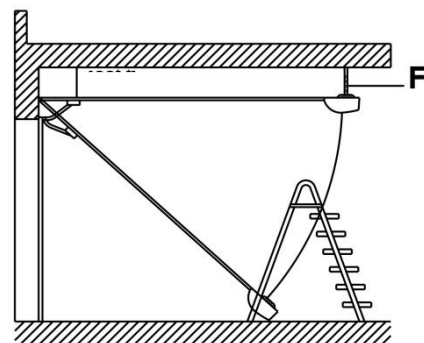
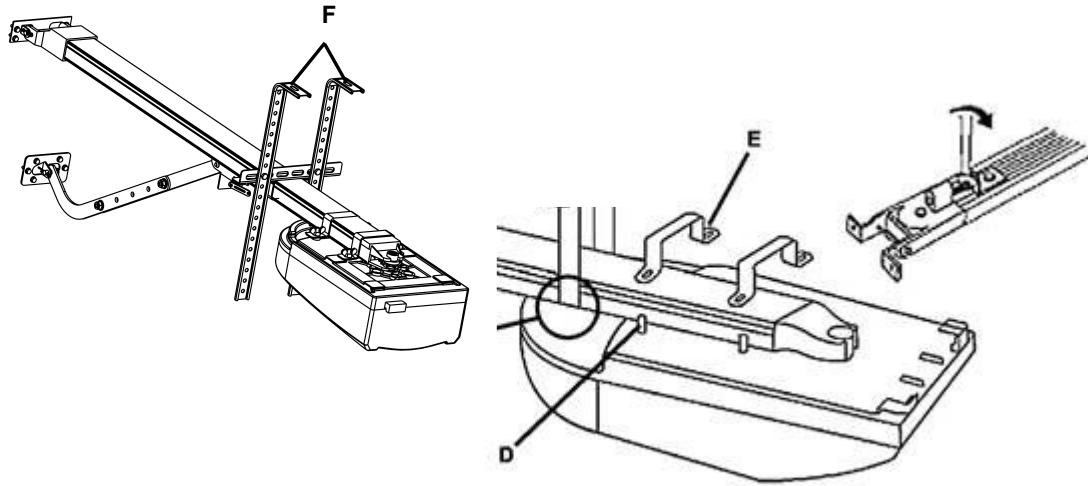
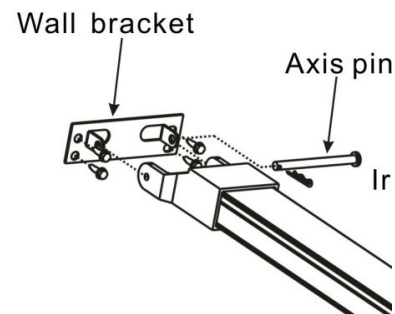

Fig.3
Fig.4
Fig.5
Make sure the track is horizontal and vertical to the shaft. Make sure the connection of hanging bracket F and ceiling is firm enough (Fig. 3).
Before attaching the U brackets (E) (Fig. 4) screw an inverted nut (6mm) (D) on each stud then position the brackets (E) on the studs and secure them in-place using a second 6mm-nut and then lock the brackets to the rail by tightening the inverted lock nuts (D). Connect the aluminum track to the wall bracket (Fig.5) on the door frame. Check measurements for drilling insert and lock the brackets F and fix the opener to the ceiling with the correct fixings (Fig. 3). Cut off any hanging brackets excess.